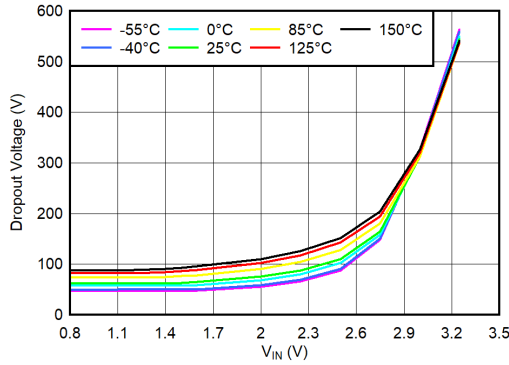

图 6-29.  $V_{IN}$  Dropout Voltage vs  $V_{IN}$  and Temperature ( $T_J$ ) for  $I_{OUT} = 1.5 \text{ A}$
- (1) Adjustable devices tested at 0.8 V; resistor tolerance is not taken into account.
(2) Dropout is defined as the voltage from  $V_{IN}$  to  $V_{OUT}$  when  $V_{OUT}$  is 3% below nominal.
(3) 3.25 V is a test condition of this device and can be adjusted by referring to Figure 6.29.